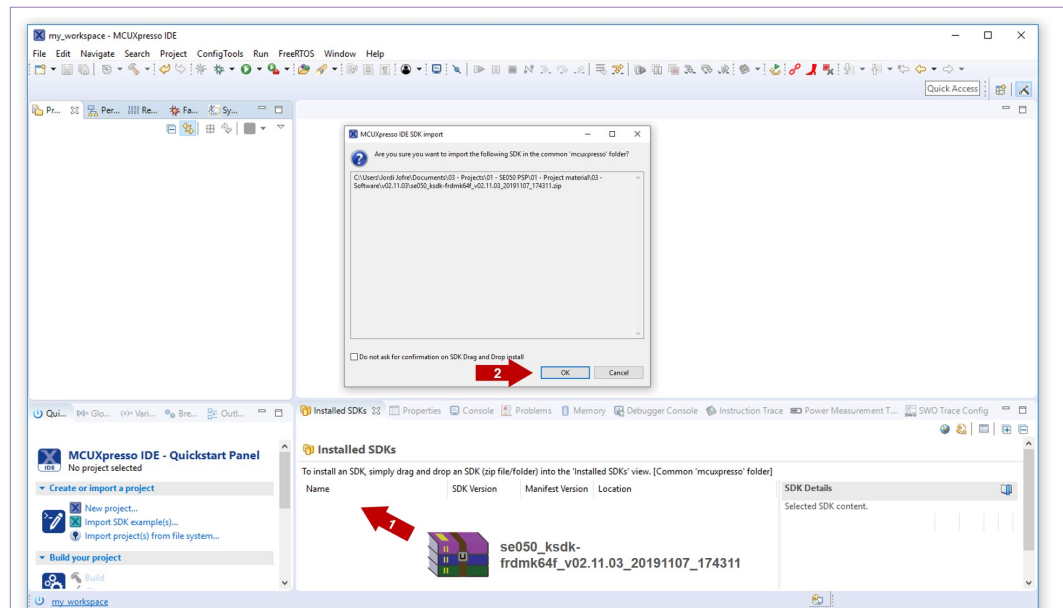

Figure 9. Import FRDM-K64F board SDK into MCUXpresso environment
After downloading the FRDM-K64F SDK, we need to install it into our MCUXpresso workspace. To install the SDK, (1) drag and drop the FRDM-K64F SDK zip file in the **Installed SDKs** section in the bottom part of the MCUXpresso IDE and (2) click **OK** as shown in Figure 9: